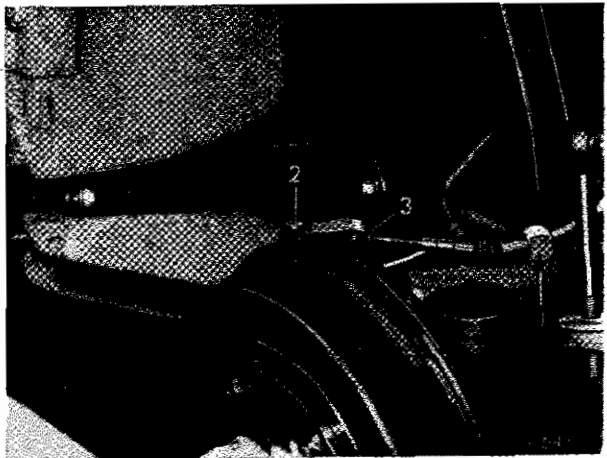

Fig. 22. Handbrake adjustment mechanism
Referring to Fig. 22 detach the cable cover holder (1) from the suspension arm and remove the clevis pin (2). Slacken nut (3), screw off the fork and remove the rubber shield and the holder (1). Withdraw the cable and its cover. Reverse this procedure to fit the new cable and adjust the handbrake.